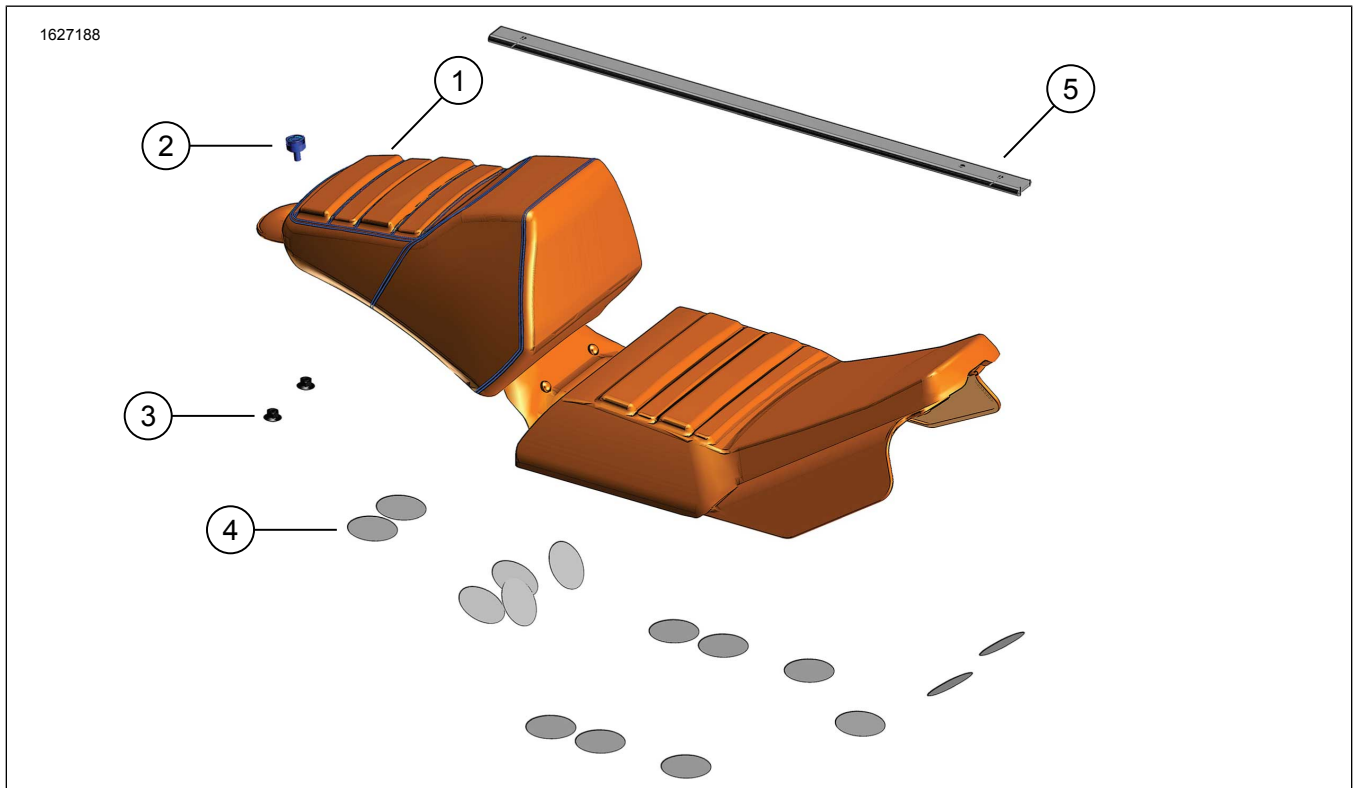
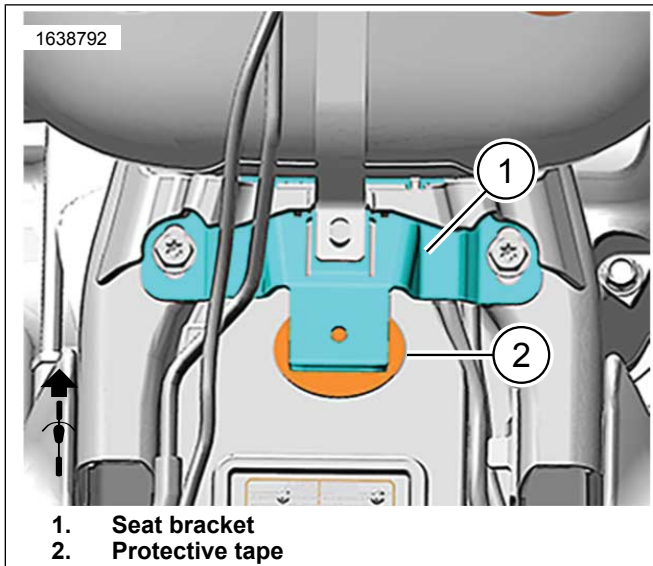

Figure 1. Kit Contents: Seat
Figure 3. Protective Tape / Seat Bracket
3. See Figure 1. Test fit seat (1) on vehicle.
4. **Models with separate passenger and rider seats:** See Figure 1. Remove fender nuts and replace with nuts (3).
6. Apply protective tape (3) beneath each rubber bumper, including fuel tank.
7. See Figure 3. Apply protective tape (3) to under seat bracket.